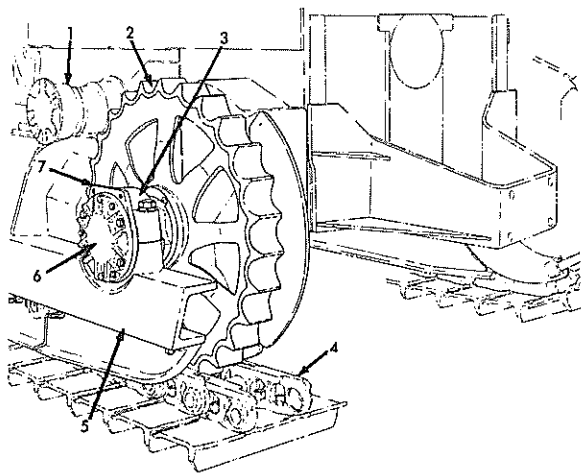

Fig. 2 Track Sprocket Installed
3. Remove truck frame pivot caps, located directly under steering clutch compartment. Remove track sprocket guards or closure plates if so equipped. Remove outboard bearing cover Fig. 2 (6) from outboard bearing cage (7); remove cover and bearing adjustment shims; tie shims to cover to prevent loss. Remove sprocket shaft bearing cap (3). Remove cap-screws attaching equalizing spring seat to truck frame.